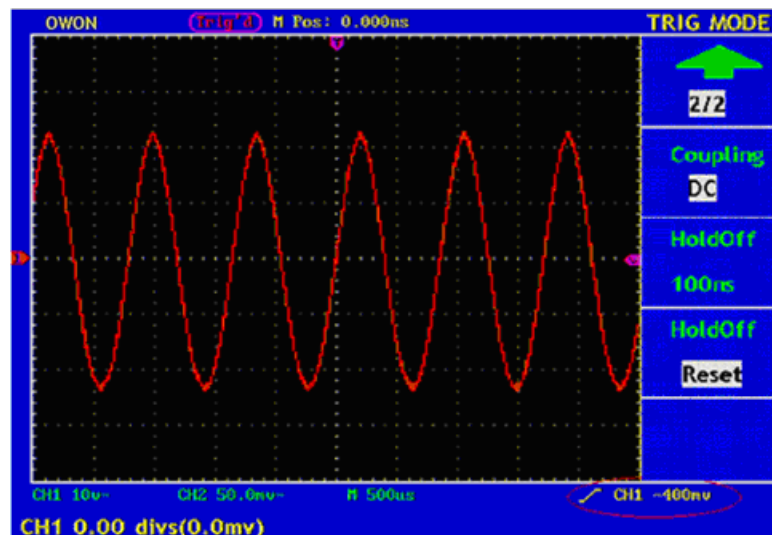

Fig.31 Waveform when Triggered on Rising Edge
7. Press **F2** next to Coupling and choose DC. You now have waveform displayed as Fig.31.